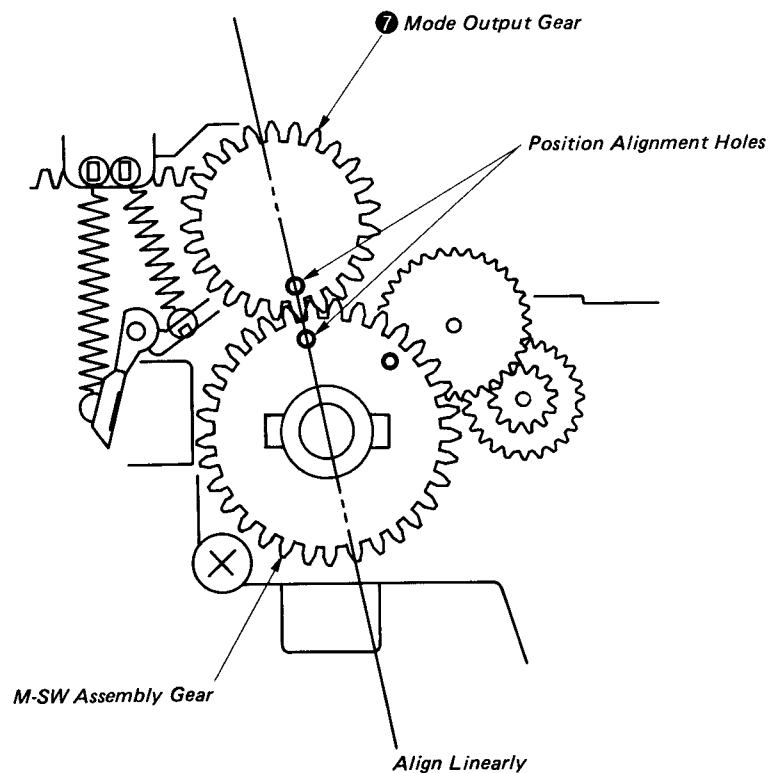

Fig. 1-42
- 8) Remount the mode output gear ⑦ so that the alignment holes are linear. (See Fig. 1-42.)